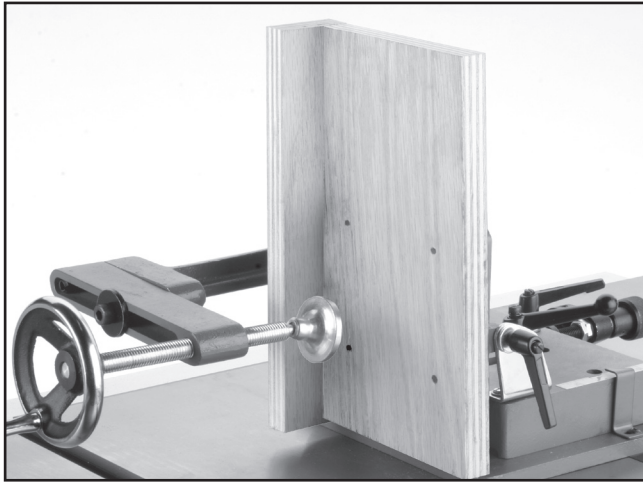

Figure 19. Back stop backup board.
4. Cut a back stop backup board and screw it to the back stop as shown in **Figure 19**.